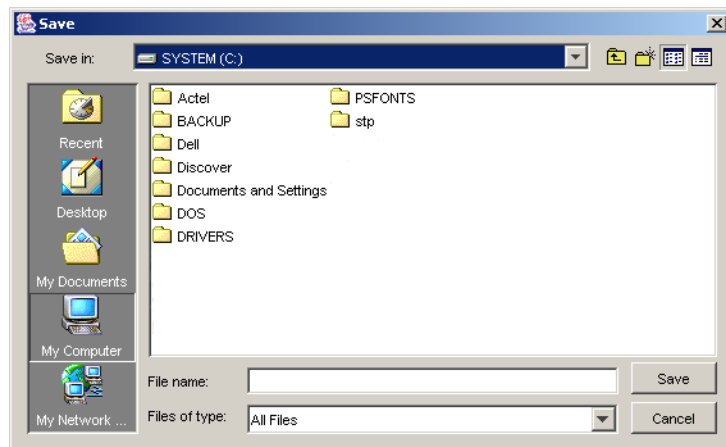

Figure 3-14. Save Dialog Box
1. From the *File* menu, click *Save Log*. The Save dialog box appears, as shown in Figure 3-14.